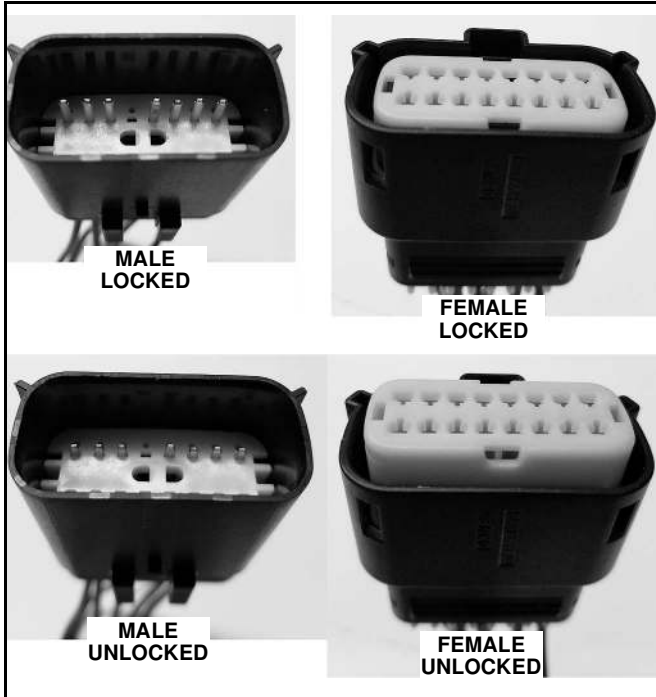

Figure 17
- A. Use needle nose pliers to disengage the secondary lock inside the 16 pin connectors. The locks do not pull completely out; they only move in and out about 3/16 of an inch. (See Figure 17.)